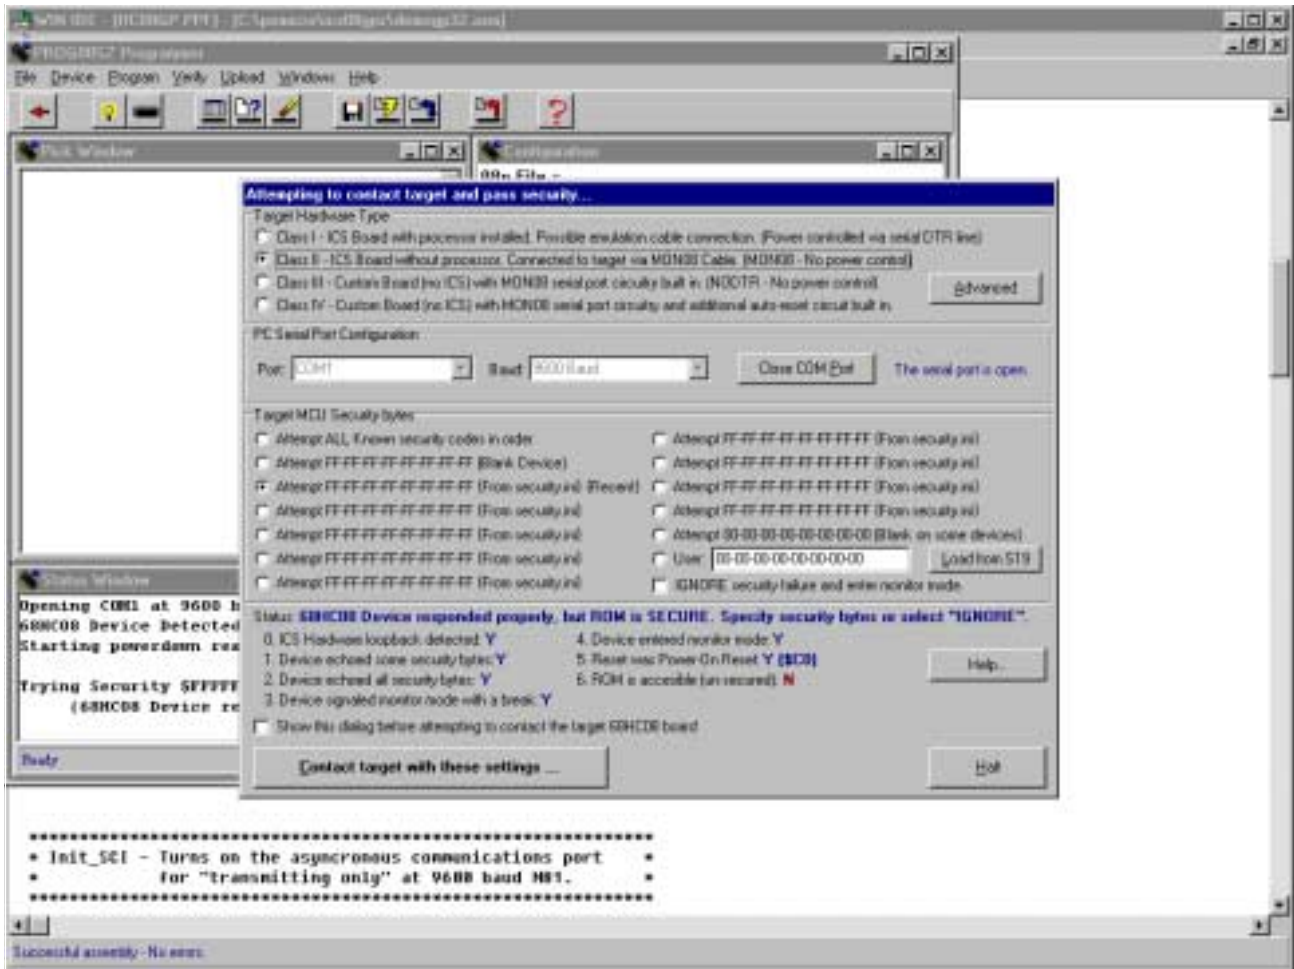

Figure 9. P&E's Target and Security Window
- g. From "Target Hardware Type," select "Class III" (see Figure 9).